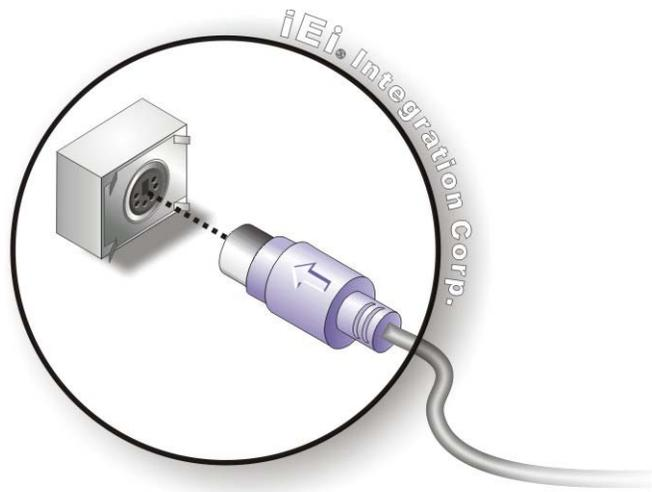

Figure 4-18: PS/2 Keyboard/Mouse Connector
Step 2: Insert the keyboard/mouse connector. Insert a PS/2 keyboard or mouse connector into the appropriate PS/2 connector on the external peripheral interface connector. See **Figure 4-18**.